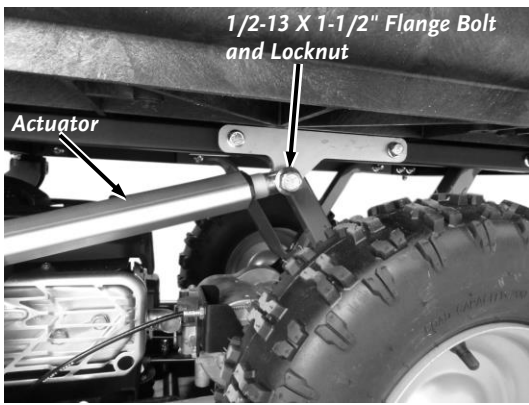

Figure 16
6. Remove the Plastic Protectors (if present) from the end of the actuator (**Figure 16**).